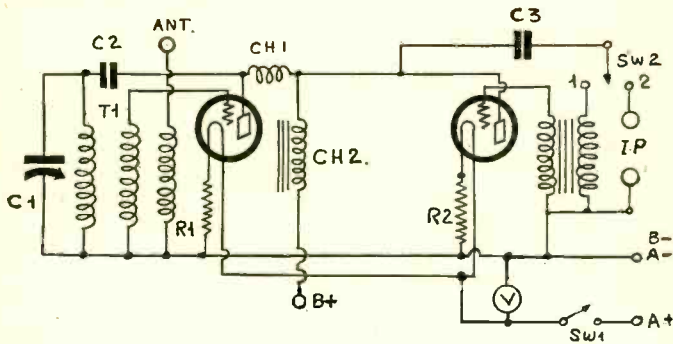

FIG. 944
You will find a good modulated oscillator circuit in Fig. 944. If you use 2 volt tubes, that is, 230s, use a battery voltage of 3 volts and make each of R1 and R2 15 ohms. C1 may be a small variable condenser of 125, 150, or 200 mmfd. C2 may be 0.01 mfd. and C3 1 mfd. Ch1 is an 85 millihenry choke of very low distributed capacity and Ch2 may be a 30 henry choke or the secondary or primary of any audio frequency transformer. The transformer in the grid circuit of the second tube is any audio frequency transformer. When you set switch Sw2 on (1) the second tube is an audio frequency oscillator and it will modulate the radio frequency oscillator. When you set this switch on (2) the second tube is an amplifier and it will then impress on the radio frequency oscillator any signal that is impressed across the terminals IP. Across these you may put either a microphone or a phonograph pick-up, or the output of a radio receiver provided that you cut down the volume.